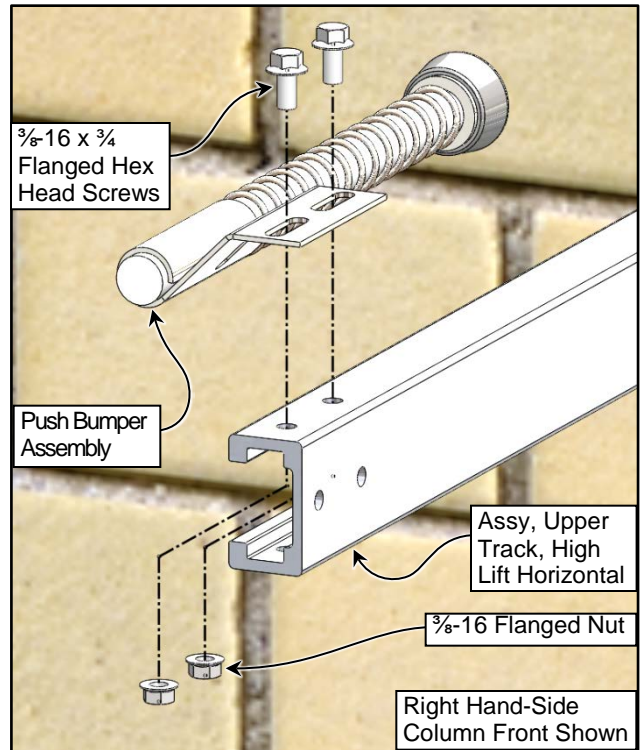
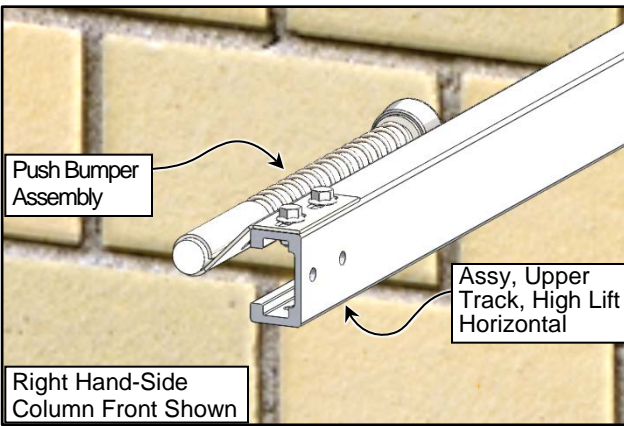

Figure 56
Figure 57
10. Identify, locate, and orient the Push Bumper Assemblies for each side. This includes the Push Bumper Assembly and fasteners. Install the Push Bumpers on the High Lift Upper Horizontal Track Assemblies as shown. (See Figure 56 & Figure 57)